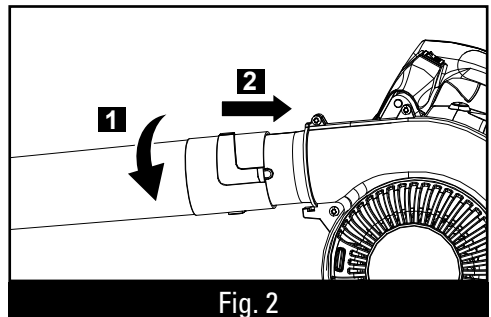

Fig. 2
Align the raised tabs on the lower blower tube to the slots on the upper blower tube, slide together and tighten securely by twisting. Check the tightness after initial use and retighten if needed. To remove the tubes, rotate the upper blower tube and remove from the lower blower tube. Insert the upper blower tube to the engine air tube (2) and lock the tube by turning 90 degree (1), Fig.2.